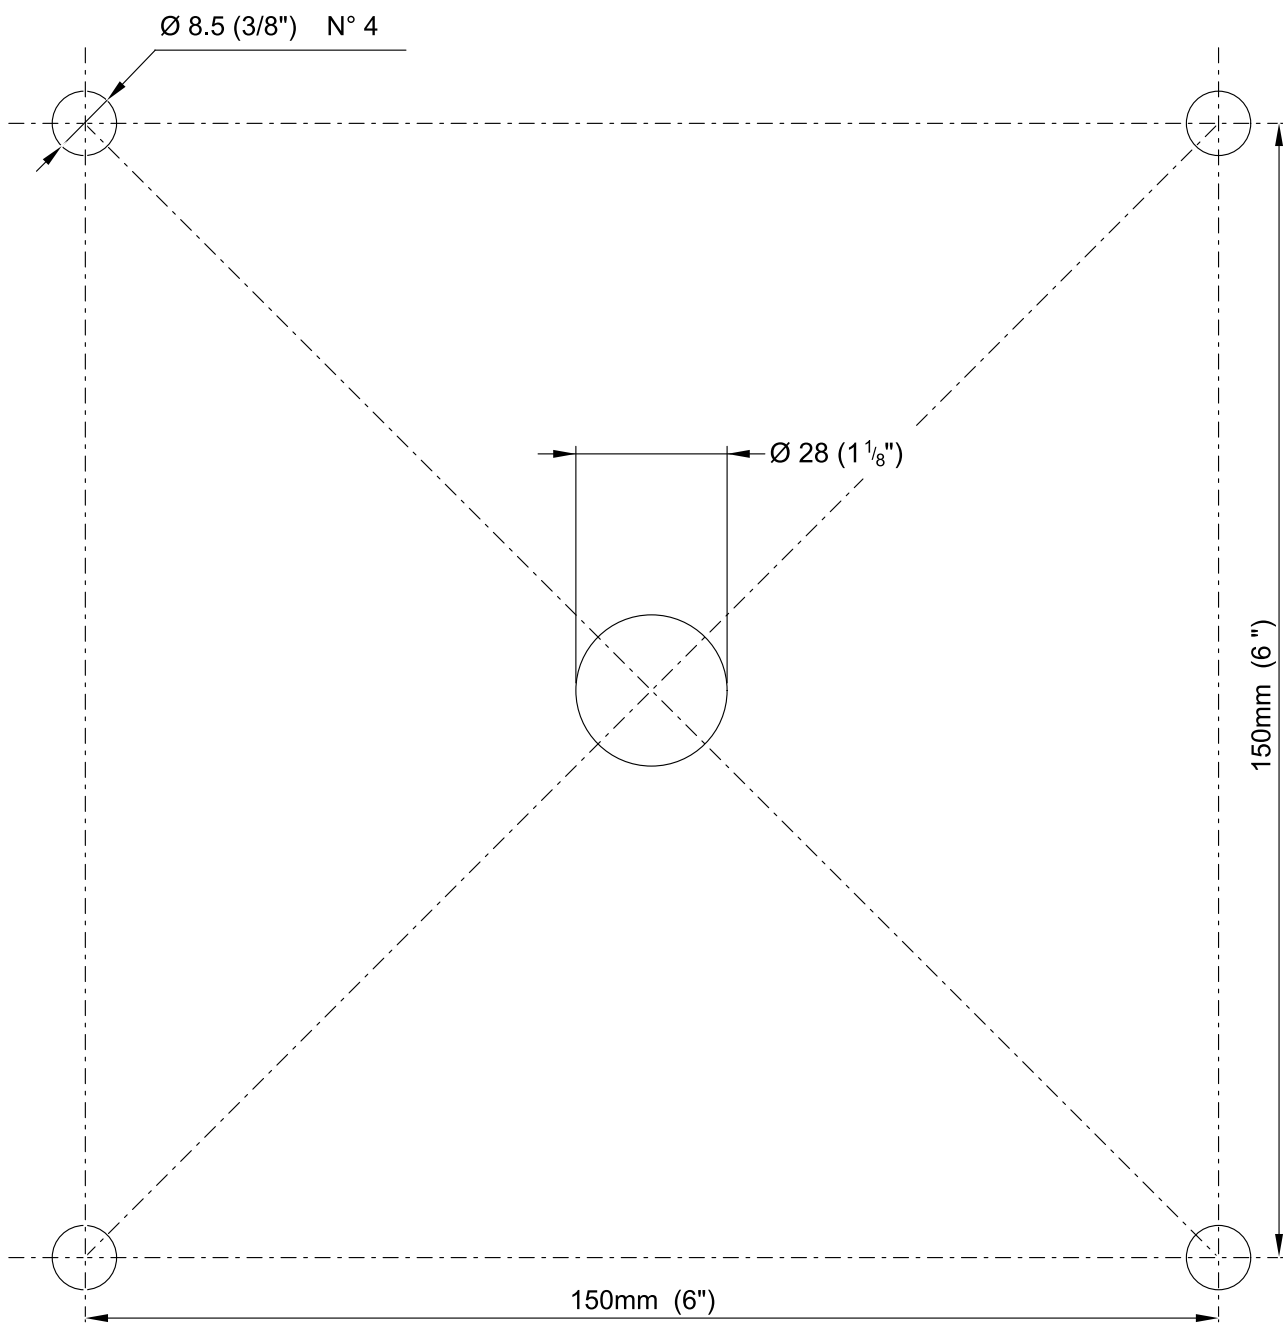

Fig. 23
7. The control unit may be fastened to a vertical wall by means of the Vimar® in-built covering frame provided together with the antenna. In this case, drill a hole with a reciprocating saw, using the cutting template in Fig. 23.